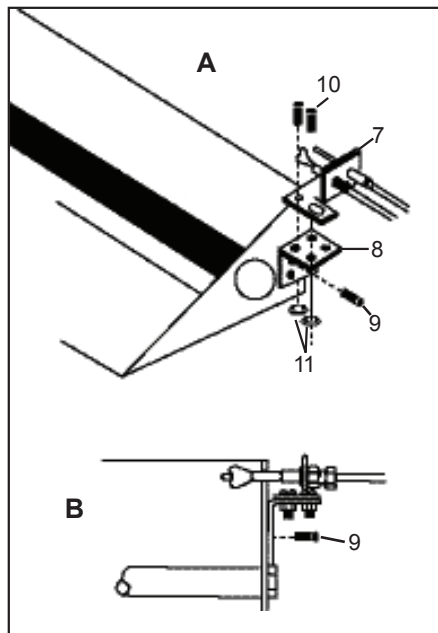

Figure 1
- B. Attach Pilot Bracket (Part #6) to the Burner Pan using the sheet metal screws (Part #9). Install sheet metal screw into the two holes of the bracket (See *Figure 1*).